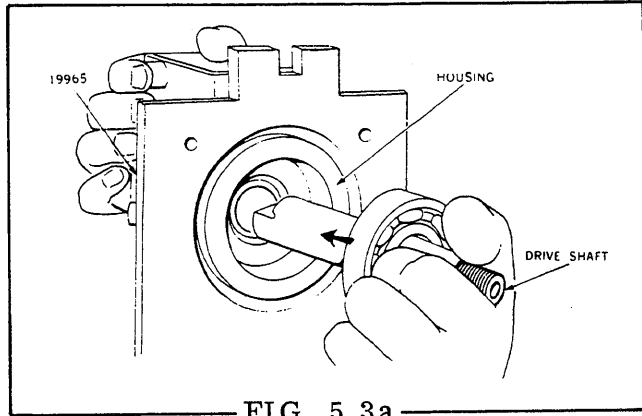

FIG. 5.3a
STEP 3 Mount the pump housing in holding Fixture No. 19965. Never clamp the pump into a vise, always use a fixture. Lubricate the O.D. of the drive shaft bearing with mineral oil and install the drive shaft assembly into the housing (Fig. 5.3a). Do not force bearing into the housing bore.